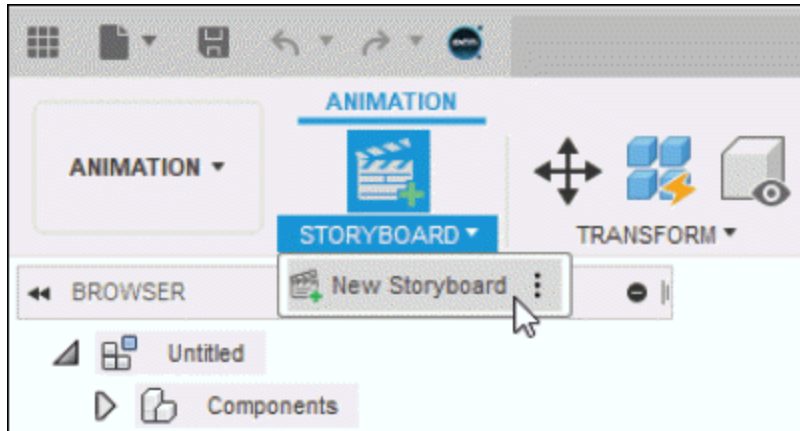
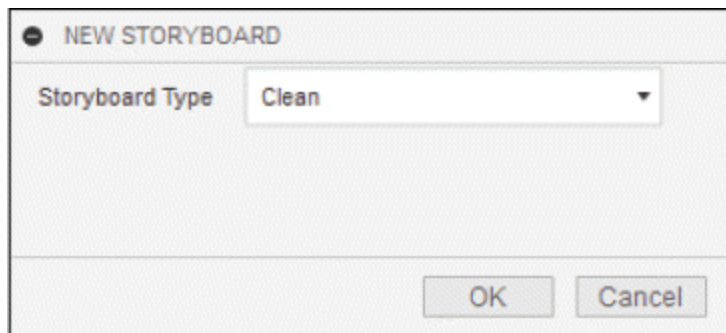

Figure-32. New Storyboard tool
Figure-33. NEW STORYBOARD dialog box
- Click on the **New Storyboard** tool from **STORYBOARD** drop-down of **Toolbar** in **ANIMATION** workspace; refer to Figure-32. The **NEW STORYBOARD** dialog box will be displayed; refer to Figure-33.